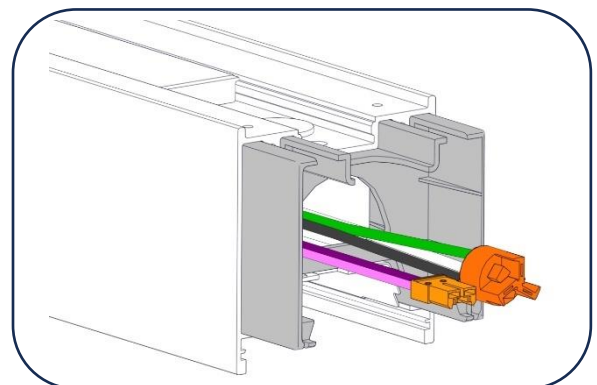

Figure 4
9. Insert a **Plastic Joiner** into the side(s) of the starter fixture, feeding the Harness Wires through the center. [Figure 4]